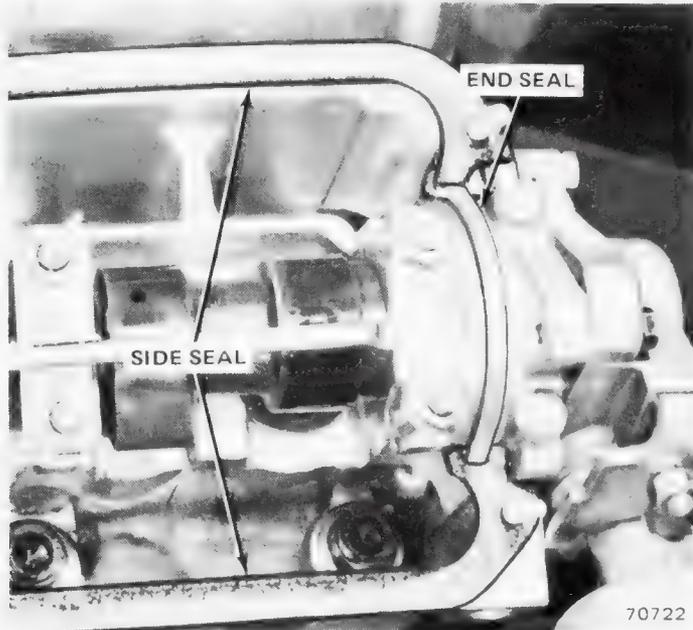

Fig. 1B-33 Cylinder Head Cover Gasket Installation
- (1) Disconnect and remove flexible TAC hose.
- (2) Remove PCV valve from grommet in cylinder head cover.
- (3) Disconnect ignition wires from spark plugs. Disconnect harness clip from cylinder head cover.
- (4) Remove cylinder head cover nuts and washers.
- (5) Strike cover with rubber mallet to break loose from head.
(6) Clean gasket material from head and cover. Inspect cover for cracks.
(7) Install end pieces in grooves of bearing caps at both ends of head (fig. 1B-33). Be sure end pieces fit into slots of side pieces. Apply AMC Gasket-in-a-Tube or equivalent to all joints.
(8) Position side pieces of replacement gasket set over studs on head.